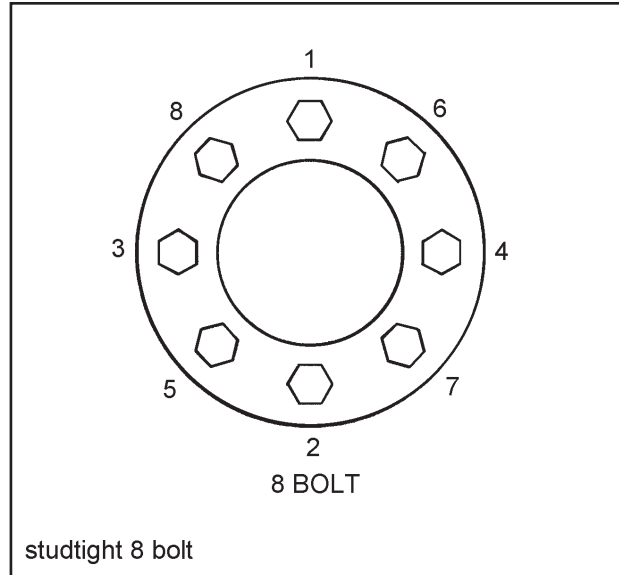

Figure 4-13 Stud Tightening Sequence
- c. Install the inner capnuts on the studs and tighten to fifty foot-pounds using the sequence illustrated in Figure 4-13. Make certain that the left-handed threads are installed on the driver side of the vehicle and the right-handed threads are installed on the curbside of the vehicle.
- d. Tighten the inner capnuts to full torque of 450 to 500 foot-pounds using the sequence shown in Figure 4-13.
- f. Install the outer capnuts and tighten to 50 foot-pounds using the sequence in **Figure 4-13**. Then tighten to full torque of 450 to 500 foot-pounds using the same sequence.
Improper tightening sequence: follow proper tightening sequence. (See Figure 4-13.)